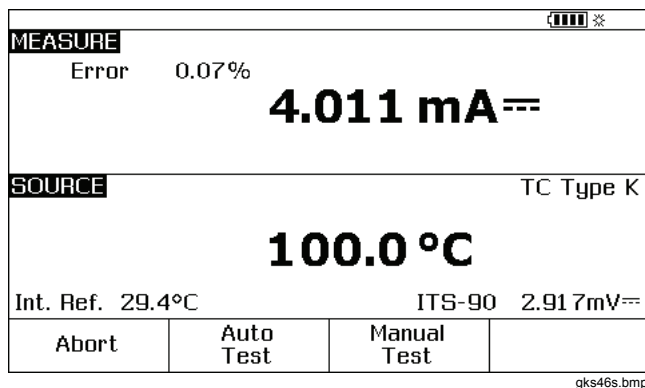

Figure 32. Measure and Source Screen for Calibration
17. Push the **Done** softkey to accept the calibration parameters. The display changes to the screen shown in Figure 32